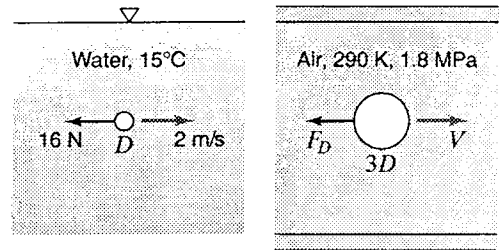

Figure P7.7
7.7 *When a submerged sphere moves through 15°C water at 2.0 m/s (Fig. P7.7), the drag force exerted on it is 16 N. In wind tunnel tests with another sphere of three times the diameter the air pressure and temperature are 1.8 MPa abs and 290 K respectively. What must the air velocity be for dynamic similarity, and what will the drag force then be on the larger sphere?*